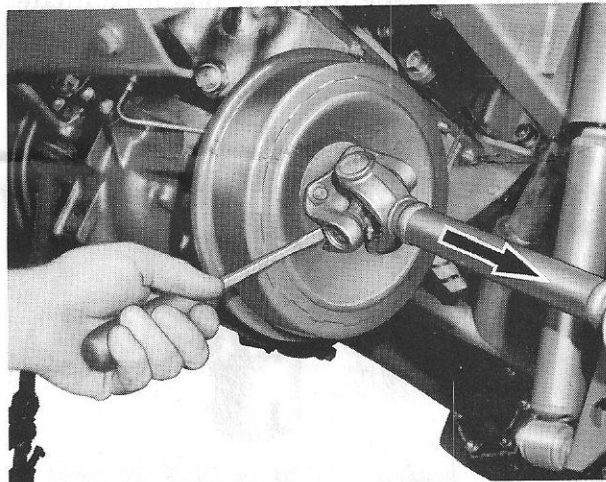

Figure 12.
- Telescope drive shaft into hub assembly to obtain clearance at differential studs. Remove axle drive shaft with bellows and sleeve assembly (fig. 12).